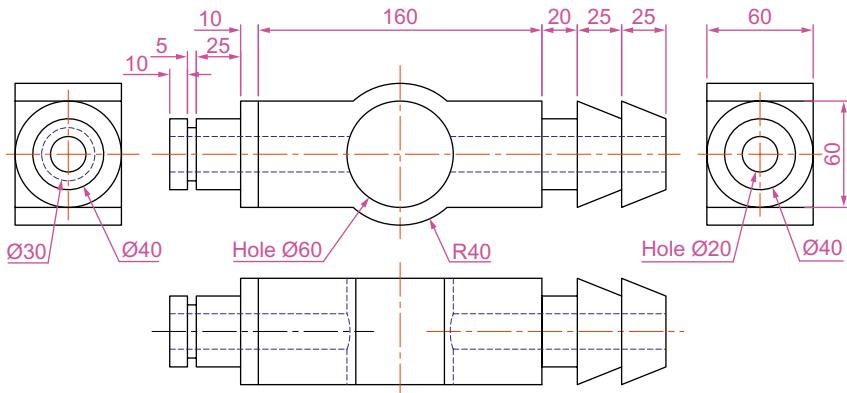

Fig. 18.15 Second example – 3D models dimensions
1. **Top.** (Fig. 18.15) Construct polyline outlines for the body extrusion and the solids of revolution for the two end parts. Extrude the body and subtract its hole and using the **Revolve** tool form the two end solids of revolution.